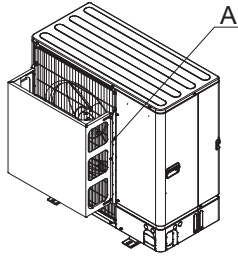

Fig. 2-4
- (2) Install an air guide if the unit is installed in a location where strong winds from a typhoon, etc. may directly enter the air outlet. (Fig. 2-4)